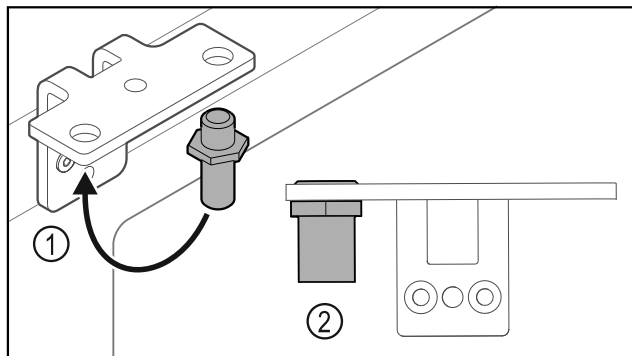

Fig. 30
- ▶ Put the pin back into the hinge Fig. 30 (1).
- ▶ Tighten the pin Fig. 30 (2) to a torque of 12 Nm.